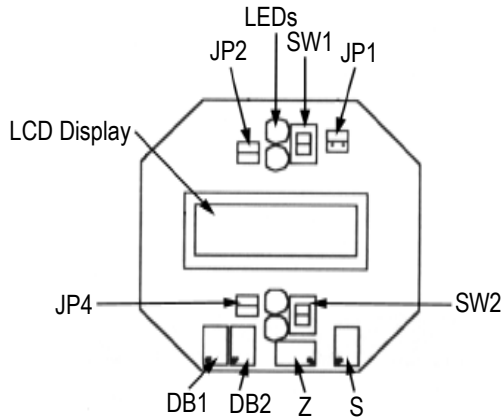

FIGURE 3
Dead bands are changed by adjusting the potentiometers located on the display board. The potentiometers are labeled D.B. 1 and D.B. 2. Turn clockwise to widen dead band; counterclockwise to narrow dead band. (See Figure 3.) Replace sight glass cover. Perform Calibration procedure to verify desired Dead Band.
Disconnect the supply circuit power. (It is not necessary to disconnect the power if the unit is located in a non-hazardous area.) After taking the unit out of service, remove the sight glass cover. The indicator may be zeroed by adjusting the potentiometer labeled Z on the LCD circuit board. Span may be calibrated by adjusting the potentiometer labeled S on the LCD circuit board. (See Figure 3.)
Normally, the red LEDs indicate that the relays are energized; the green LEDs indicate that the relays are de-energized unless otherwise specified at the time the Series 522 is ordered. To change the mode of the LEDs: **Disconnect power supply.** Remove the sight glass cover and face plate. (See Figure 3.)
- Set Point 1: Use needle nose pliers to remove JP2, rotate 90° and plug in. (See Figure 3.)
- Set Point 2: Use needle nose pliers to remove JP4, rotate 90° and plug in. (See Figure 3.)
See Figure 3. Use needle nose pliers to remove JP1 and plug in as follows: